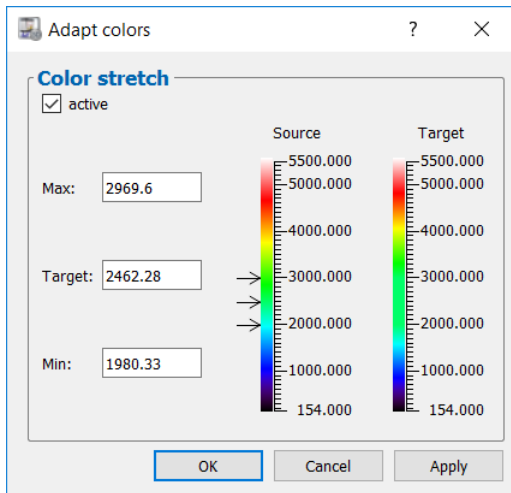

Fig. 3.46: "Adapt colors" dialog box
- **Adapt surface colors...:** You can vary the selected color palette and adapt it to your needs (see Fig. 3.46). The target color value will be stretched between the upper and lower limit. The color values outside the upper and lower limit will be shrunk.